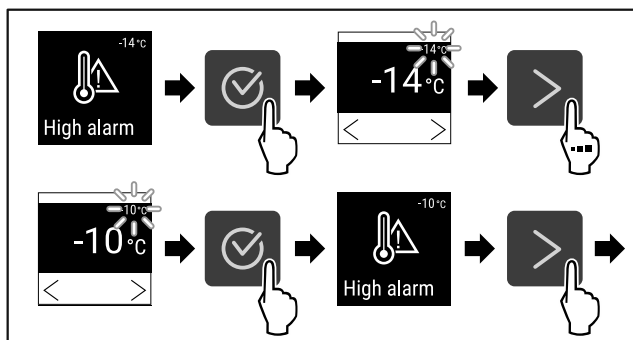

Fig. 132
- ▶ Complete steps (see Fig. 132).